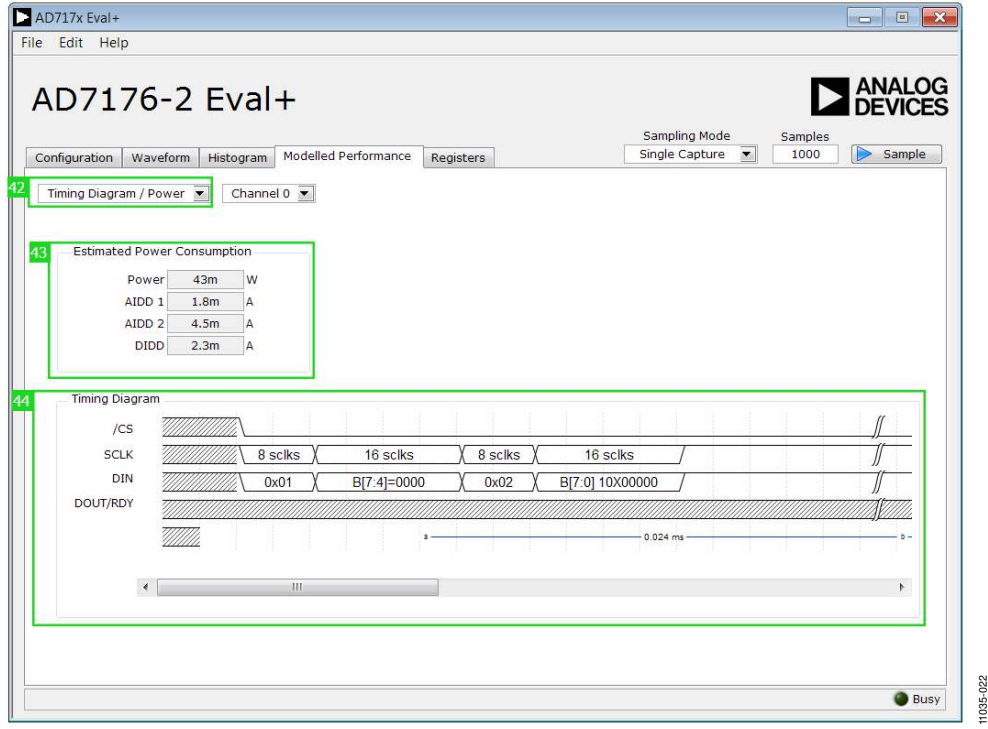

Figure 25. **Timing Diagram / Power** of the **AD7176-2** Evaluation Software
**Timing Diagram / Power (42)**
This dropdown menu gives the ability to switch between the three sections of the **Modelled Performance** (31) tab. Figure 25 shows the tab when **Timing Diagram / Power** (42) is selected.
**Estimated Power Consumption (43)**
**Power Consumption** (43) feature is for continuous conversion mode only, and no other mode of operation is supported (see Figure 25).
**Timing Diagram (44)**
This graph shows the digital interface **Timing Diagram** (44) for the current configuration. The graph shows the timing for both the configuration of the ADC and the subsequent data reads from the ADC (see Figure 25).